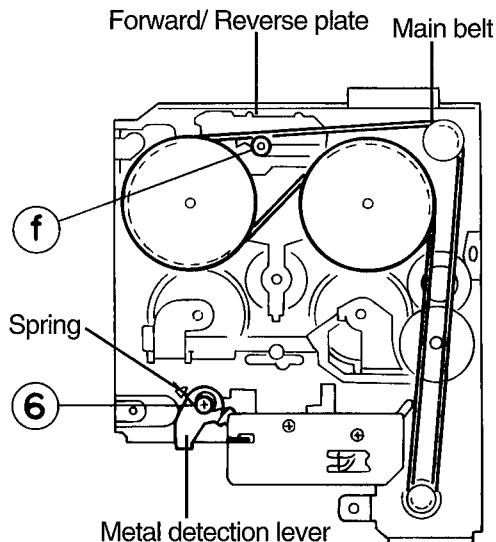

Fig. 8
### ■ Removing the Head Plate ( See Fig. 8,9 )
7. Remove the two screws **⑥** fixing the metal detection lever and removal spring as shown in Fig. 8.